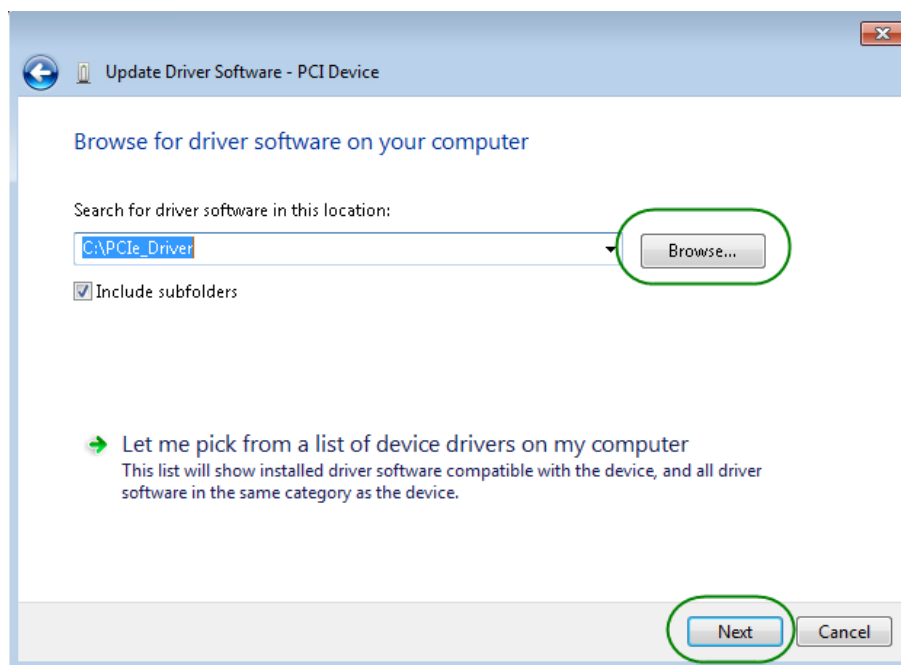

Figure 4-5 Browse for driver software on your computer
9. In the **Browse for driver software on your computer** dialog, click the **Browse** button to specify the folder where altera_pcie_din_driver.inf is located, as shown in **Figure 4-5** Click the **Next** button.